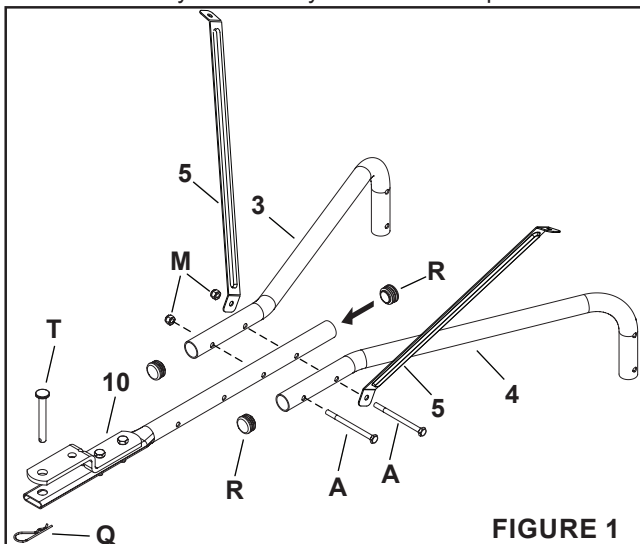

FIGURE 1
Step 1: (See Figure 1)
1. Insert a plug (R) into the end of the hitch tube (10), and hitch support tubes (3 and 4) using a rubber mallet.
2. Install the hitch pin (T) in the hitch bracket and hitch tube (10) and secure it with the hairpin cotter (Q).
3. Attach the hitch support tubes (3) and (4) to the hitch tube (10) using one 1/4" x 3-1/2" hex bolt (A) and 1/4" nylock nut (M).
4. Fasten the hopper braces (5) to the hitch tube using a 1/4" x 3-1/2" hex bolt (A) and a 1/4" nylock nut (M). Do not tighten completely. Hopper braces can be laid down facing towards the hitch as they are not fully installed till Step 12.